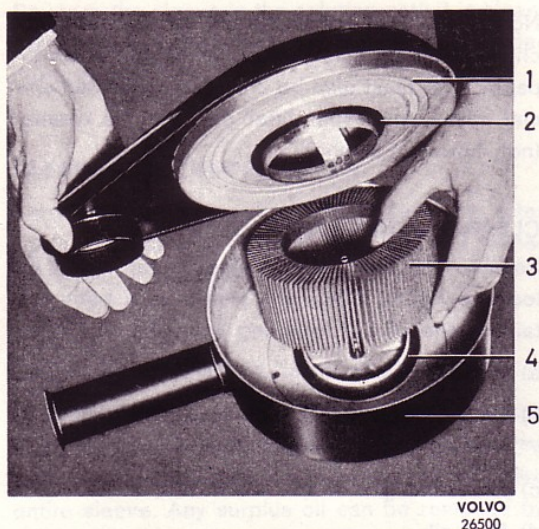

Fig. 94. Air cleaner, replacing element, type I
2. Lift off the upper section and remove the old element (3, Fig. 94).